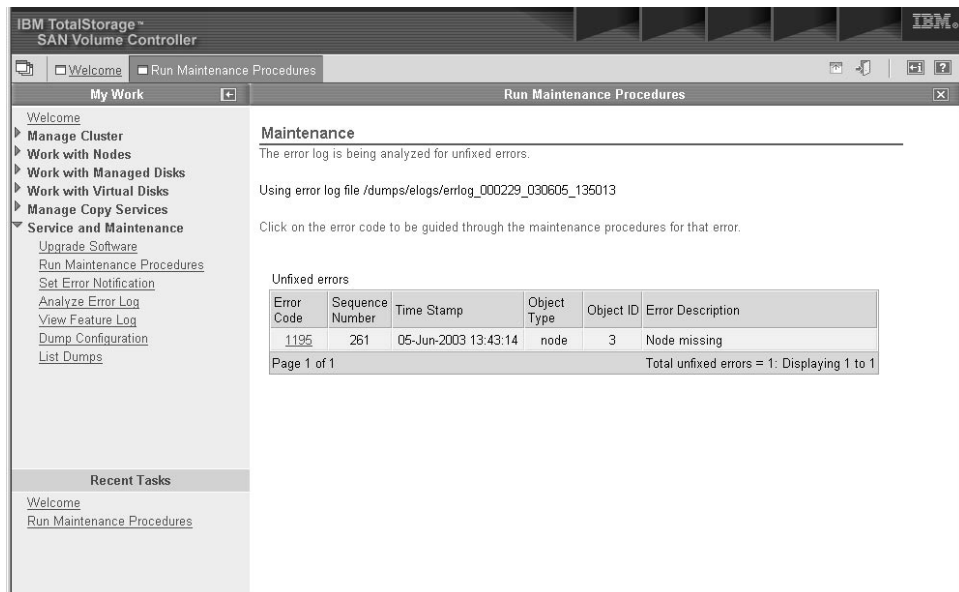

Figure 36. Example of what is displayed when you start analysis
2. From the panel for Maintenance Procedures, click Start analysis to display what is shown in Figure 36.
Figure 36 shows a list of unfixed errors. This example shows that only one error needs to be repaired. The list might contain any number of errors that need to be repaired. The error at the top of the list has the highest priority and should always be fixed first. If you do not fix the higher priority errors first, you might not be able to fix the lower priority errors.